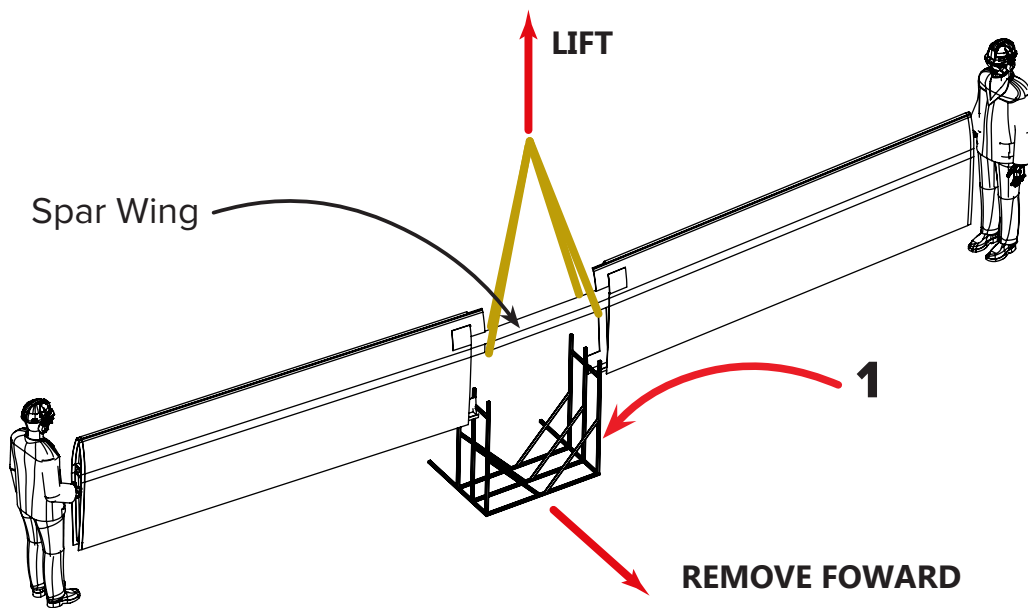

FIGURE 2-5 - REMOVAL OF WINGS TRANSPORT SUPPORTS
12. PLACE the webbing sling / lifting belt on the Spar (figure 2-5);
13. LIFT the Wings Set by the Spar enough to remove of the WINGS TRANSPORT SUPPORTS (1);